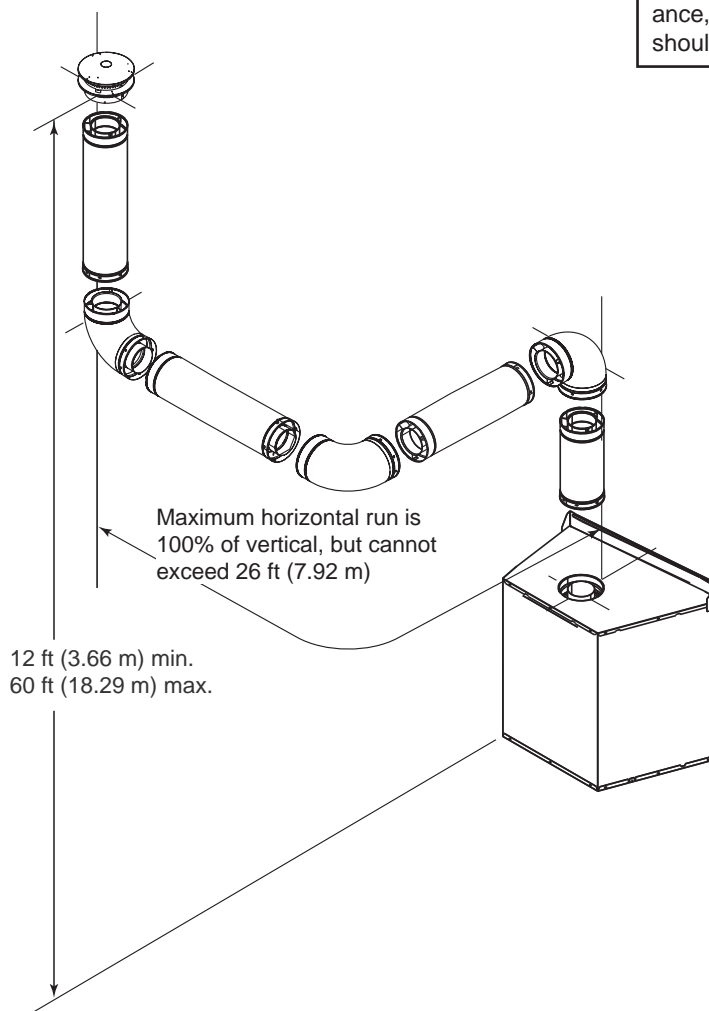

Figure 7.9
- A maximum of three 90° elbows (or six 45° elbows) may be used in any vent configuration. Some elbows may be installed horizontally. See Figure 7.9.